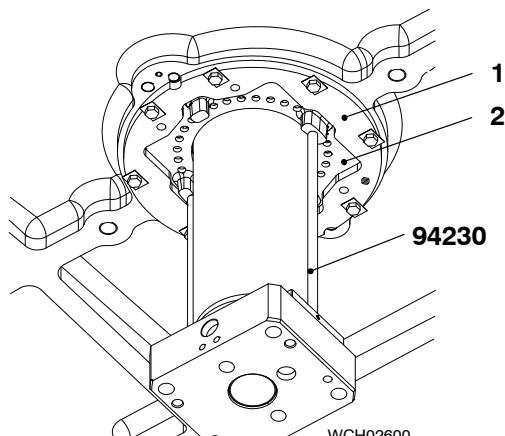

Fig. 4
- 13) Use the turning gear to turn the crank to TDC until the two distance holders (94230) are near to the piston rod gland (2, Fig. 4). Piston rod gland (2) is pushed out of the support (1).